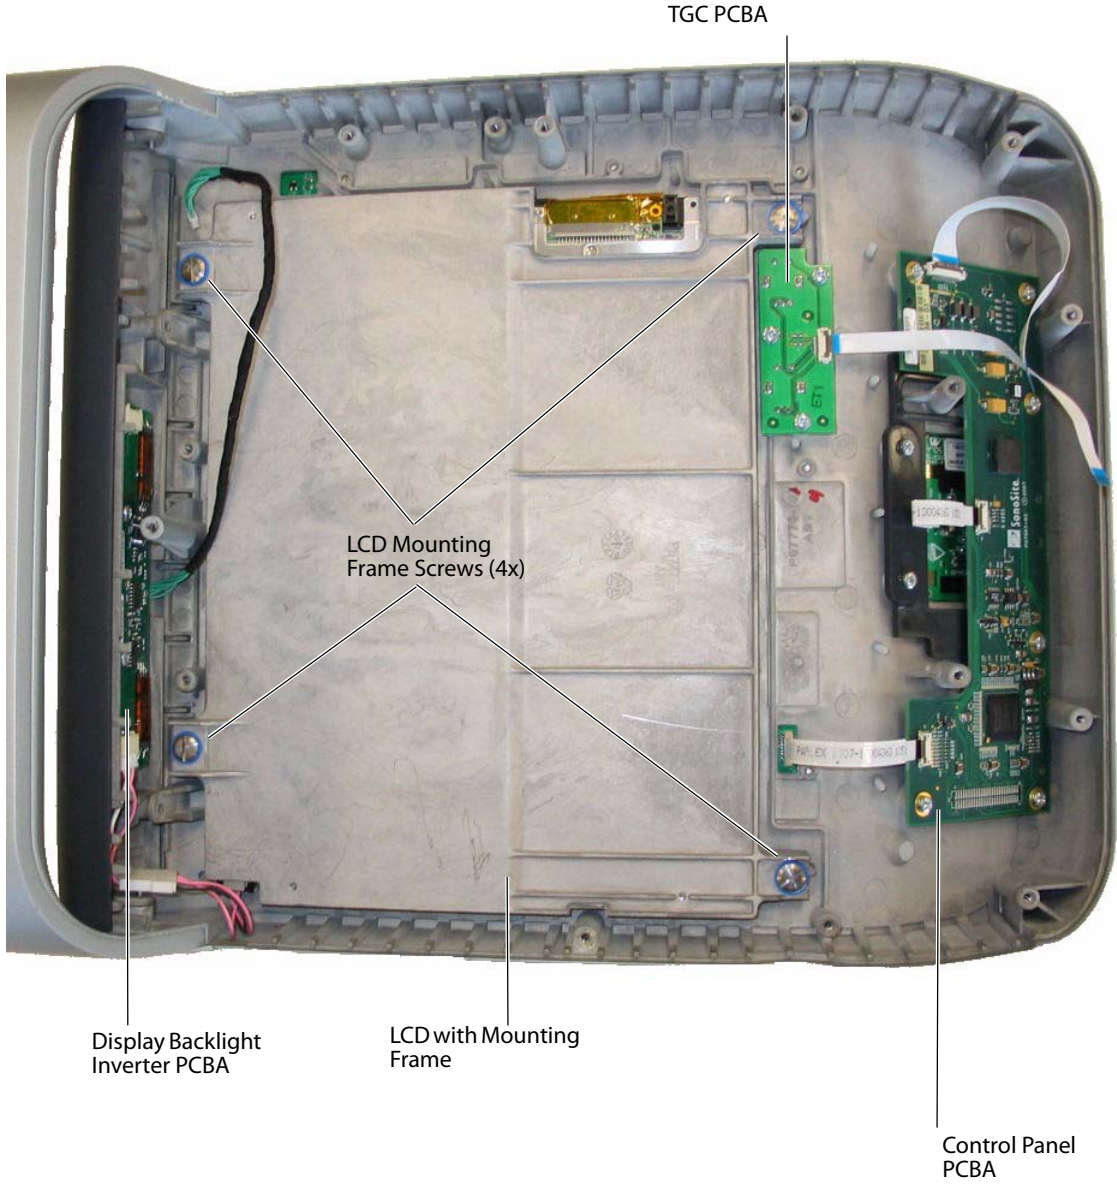

Figure 4.27 Other Major System Components
- 2 Remove the four LCD frame mounting screws shown in Figure 4.27.
- 4 Reinstall the mounting frame screws as shown in Figure 4.27, and torque to 8.0 inch/pounds (.904 Newton-meters).